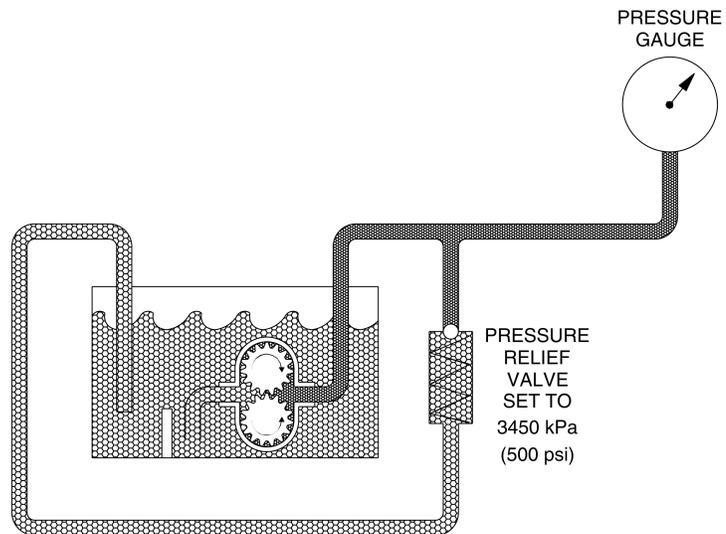

Figure 1-18. Circuit for review question 6.
6. In the circuit shown in Figure 1-18, what should be the pressure gauge reading? Explain.